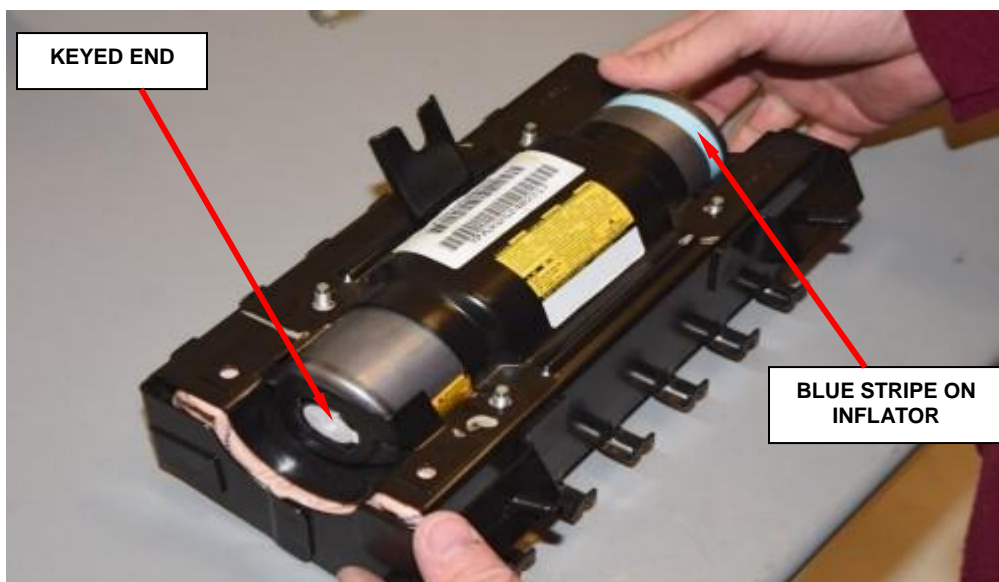

Figure 96 – Insert Inflator
- k. Slide **new** inflator into housing. The keyed end is inserted first, therefore the blue stripe on the inflator will be located at the open end, as shown (Figure 96).